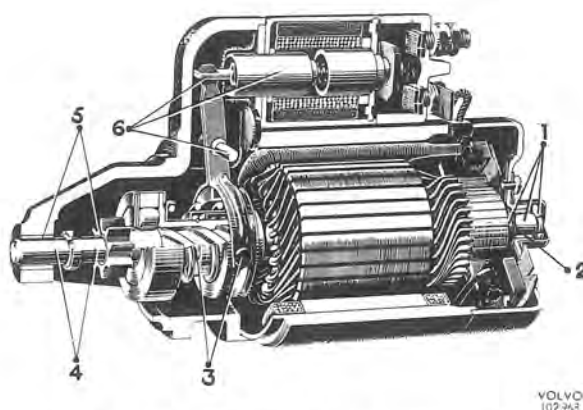

Fig. 3-45. Lubricating scheme for starter motor
1. Lubricate the parts of the starter motor according to Fig. 3-45.